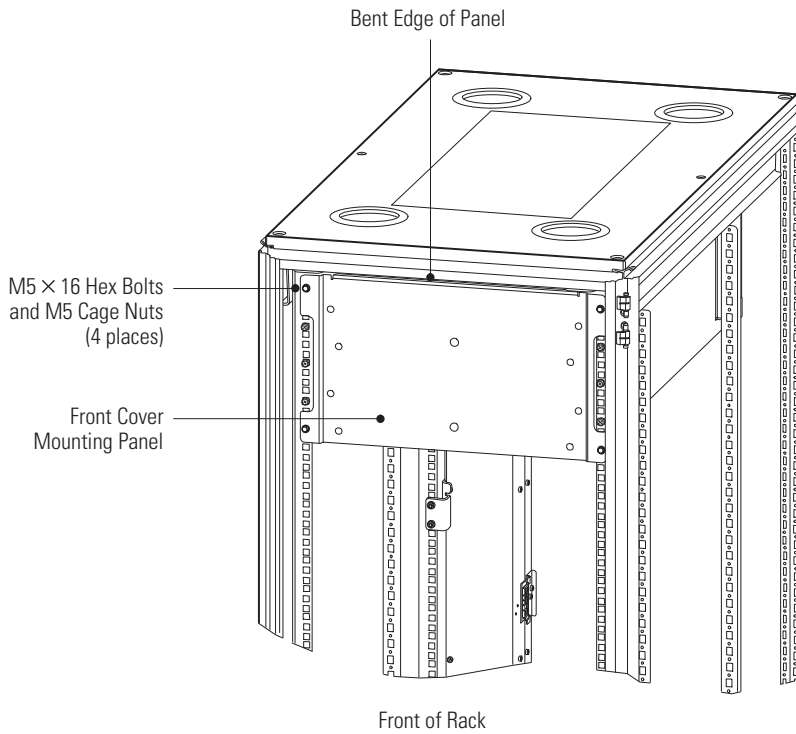

Figure 20. Front Cover Mounting Panel Installation
24. Using four M5 x 16 hex bolts and four M5 cage nuts, secure the front cover mounting panel to the front of the rack. Ensure that the bent edge of the panel is at the top. See Figure 20.